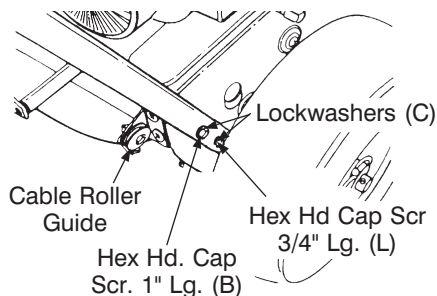

FIGURE 4
- Resting the lower handle on the floor behind the machine, line up the lower holes in the handle with the lower holes in the frame sides and secure with lockwashers (C) and hex screws (L). See Figure 4. **NOTE:** Hex screws have a chemical patch which sets after bolt is assembled.
- Raise the lower handle up aligning upper holes in the handle with remaining hole in the frame. Secure to the frame with lockwashers (C) and hex screws (B). See Figure 4.
- Make certain all cables are in the grooves of the cable roller guides. The roller guides are located on the engine frame at the rear of the unit, see Figure 4.